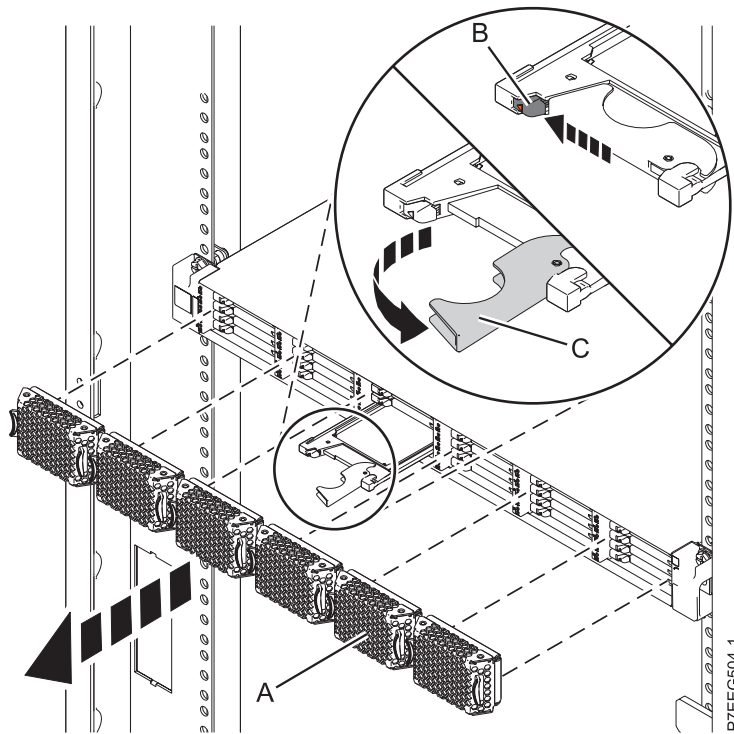

Figure 30. Removing the solid-state drive from the EDR1 PCIe storage enclosure
4. When the solid-state drive identify LED turns on solid, slide the release latch (B) over gently to unlock the drive handle. See Figure 30.
5. Grasp the handle (C) and pull the drive partially out of the slot.